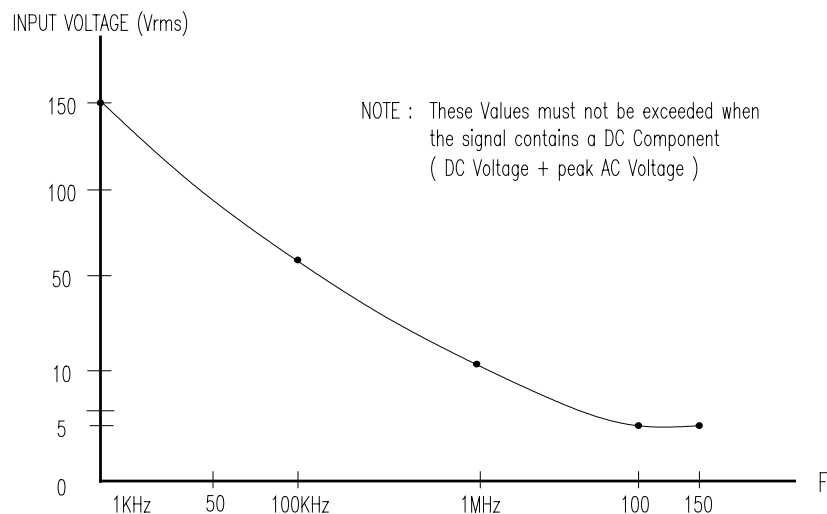

Fig. 6. Maximum Input Voltage-Frequency
- 1) When the impedance is  $1M\Omega$ , the maximum voltage applied to the input depends on the frequency and the position of the SENSITIVITY switch. This relationship is shown in Fig. 6, and the values given in this table must be strictly observed. Initially set SENSITIVITY to 1/10, if the counter doesn't count, set the switch to 1/1 range and then perform measurement. This procedure will reduce the danger of damaging the input circuit.
The maximum input voltage Vs frequency characteristics is shown as Fig. 6.